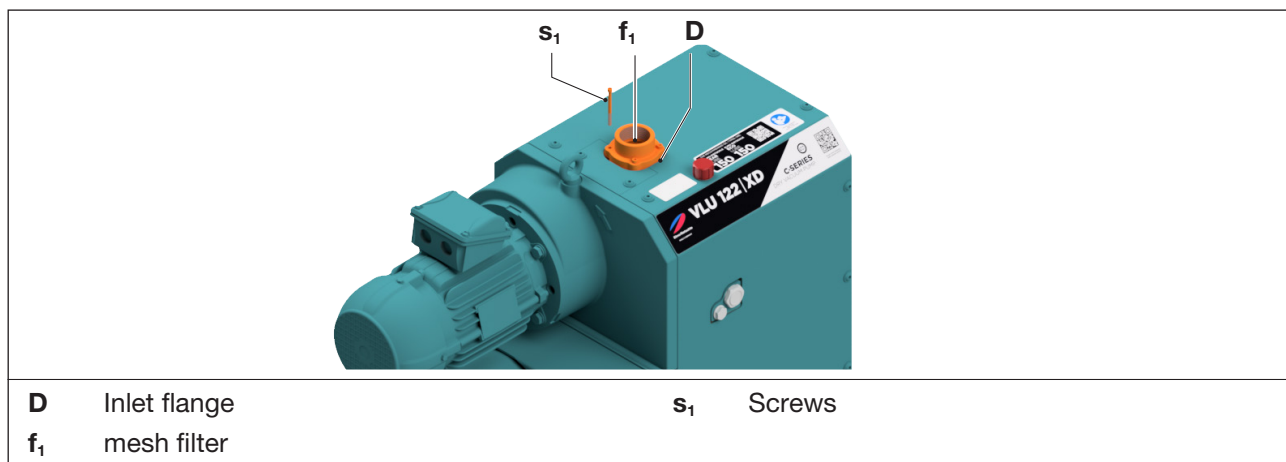

Fig. 6 Mesh filter
- Take off the inlet flange (Fig. 6/D) after releasing the screws (Fig. 6/s₁).
- Clean the mesh filter (Fig. 6/f₁). Also check the non-return valve (Fig. 6/D₁) for pollution and clean it if necessary.
- Remount the inlet flange (Fig. 6/D) and retighten the screws (Fig. 6/s₁). Tightening torque: 10 Nm.